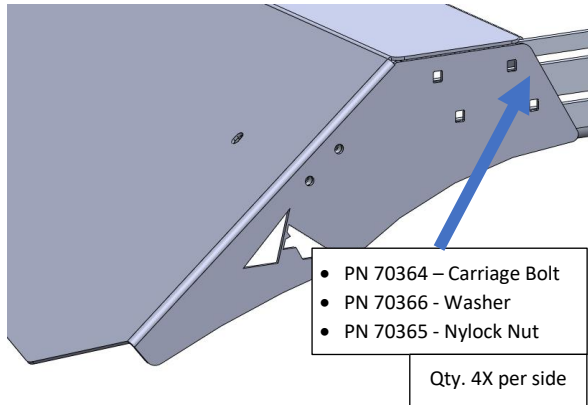

Figure 13: Air Dam Subassembly Installation
9. Install air dam subassembly onto roof rack using appropriate carriage bolts and hardware shown in Figure 13.